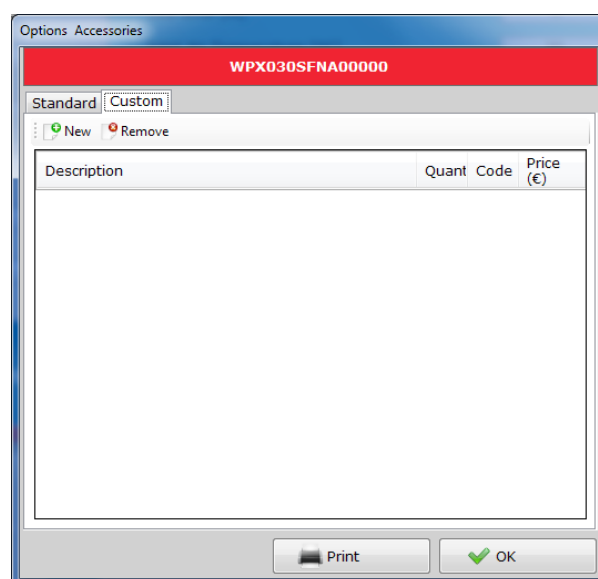

Fig. 2 - Free rows section
- **Custom:** section to entering empty lines in the final specifications (Fig.2)